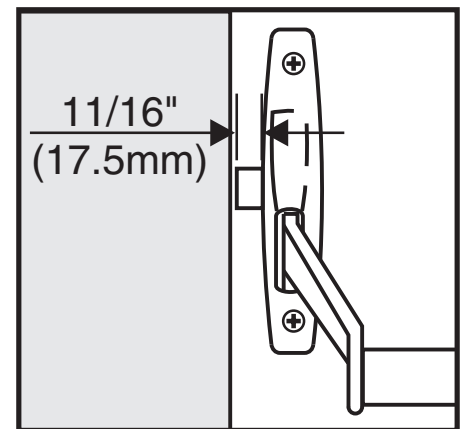

Figure 12
1. Latch should project $11/16"$ (17.5mm) when crossbar is in neutral position. (Figure 12)